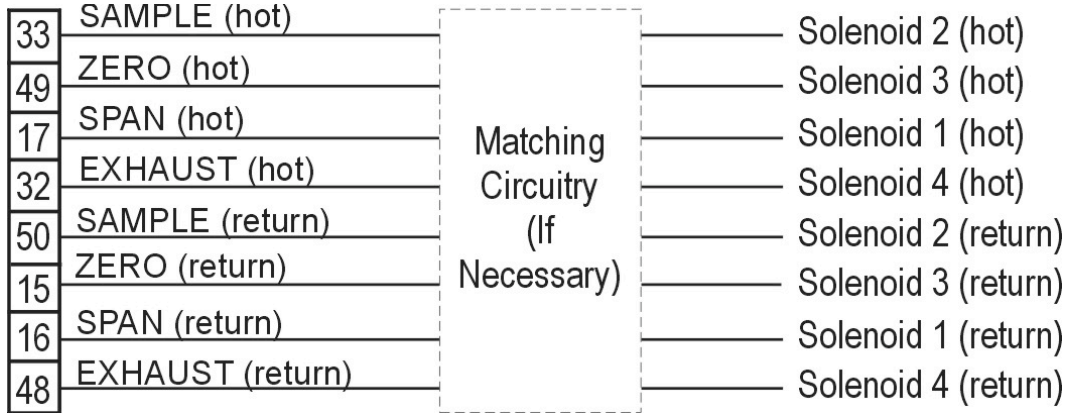

Figure 3-5: Remote Probe Connections
**Span:** Floating input. 5 to 24 V input across the + and – pins puts the analyzer into the *Span* mode. Either side may be grounded at the source of the signal. 0 to 1 volt across the terminals allows *Span* mode to terminate when done. A synchronous signal must open and close external span valve appropriately. See Figure 3-5 Remote Probe Connector. (The –C option internal valves operate automatically.)
**Remote Valve Connections:** The 3000ZA is a single-chassis instrument, which has no Remote Valve Unit. Instead, the Remote Valve connections are used as a method for directly controlling external sample/zero/span gas valves. See Figure 3-5.